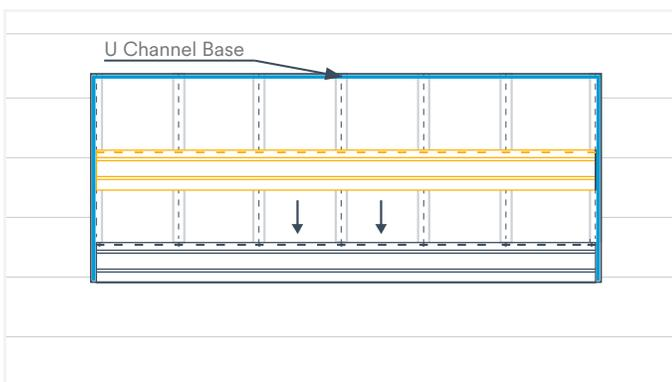

Fig. 33
1. Place a panel on top of the previously installed panel, aligning the ends of both panels (Fig. 33).